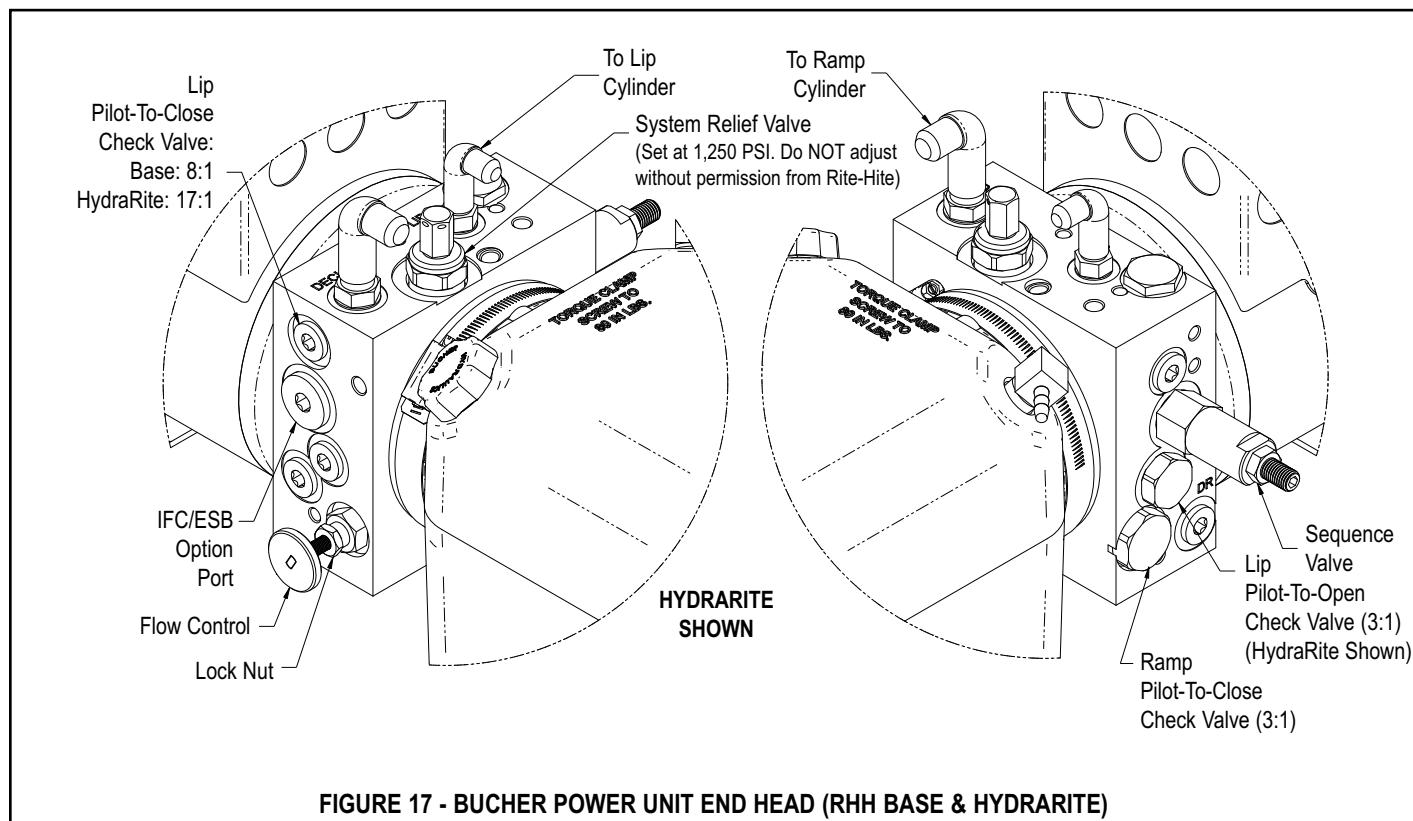

FIGURE 17 - BUCHER POWER UNIT END HEAD (RHH BASE & HYDRARITE)
4. Set flow control valve (first loosen locknut on valve). See Figure 17.
3. Turn adjustment screw in completely (clockwise) with an allen wrench. See Figure 17.